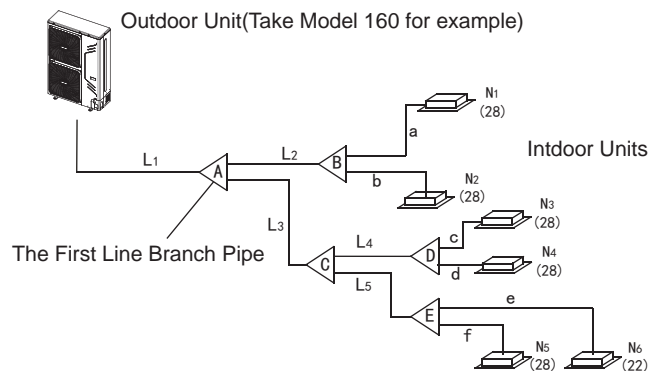
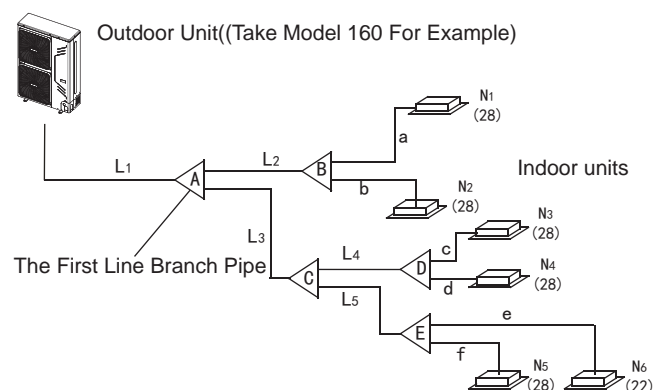
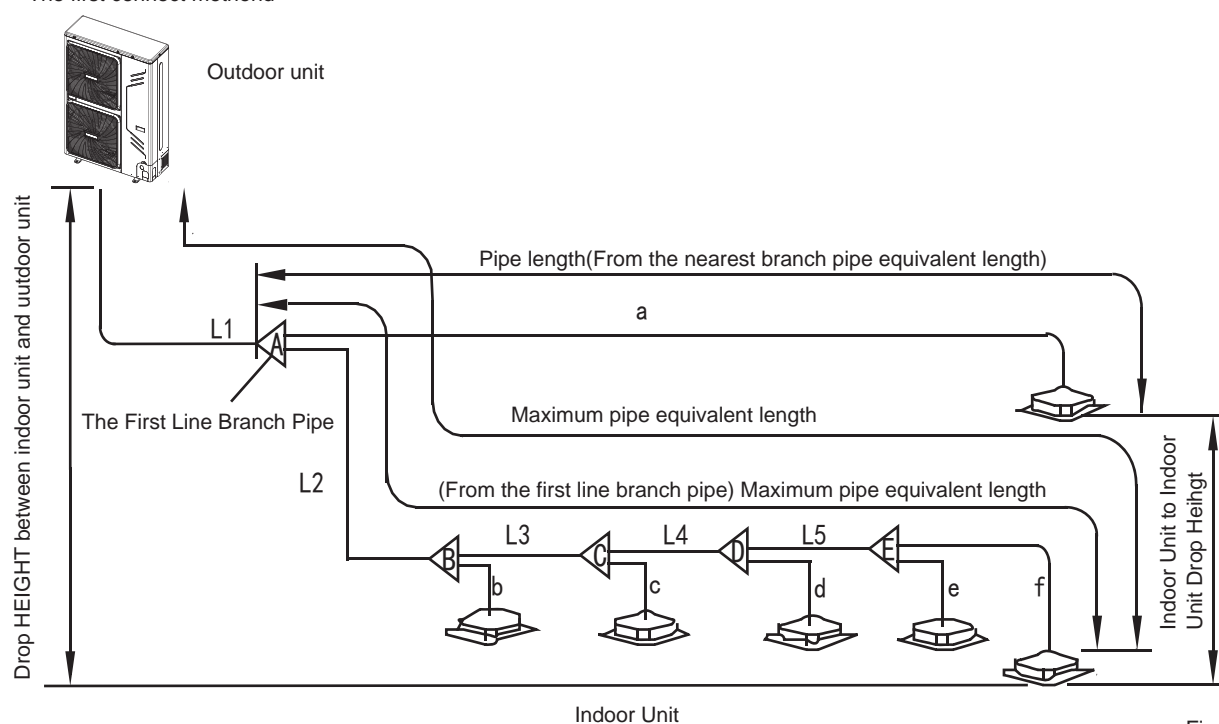

Fig. 4-5
Fig.4-6
Fig.4-7
- 2) Example 1: In the Fig.4-5, The downstream inner units of the L2, and its total capacity is $28 \times 2 = 56$, refers to the Table 4.4, the air/liquid side of L2 is: $\Phi 15.9/\Phi 9.5$.
- Main pipe (Please refer to Fig.4-5 and Fig.4-7)
In Fig.4-6, the main pipe L1, the outdoor unit capacity is 16kW, and check the Fig.4-7 to get the size of gas pipe/liquid pipe is $\Phi 19.1/\Phi 9.5$, and also the total equivalent length of liquid side and gas side pipes is $>90m$, then check the Fig.4-4 to get the size of gas pipe/liquid pipe is $\Phi 22.2/\Phi 9.5$, and according to the maximum value principle, it should apply the $\Phi 22.2/\Phi 9.5$.